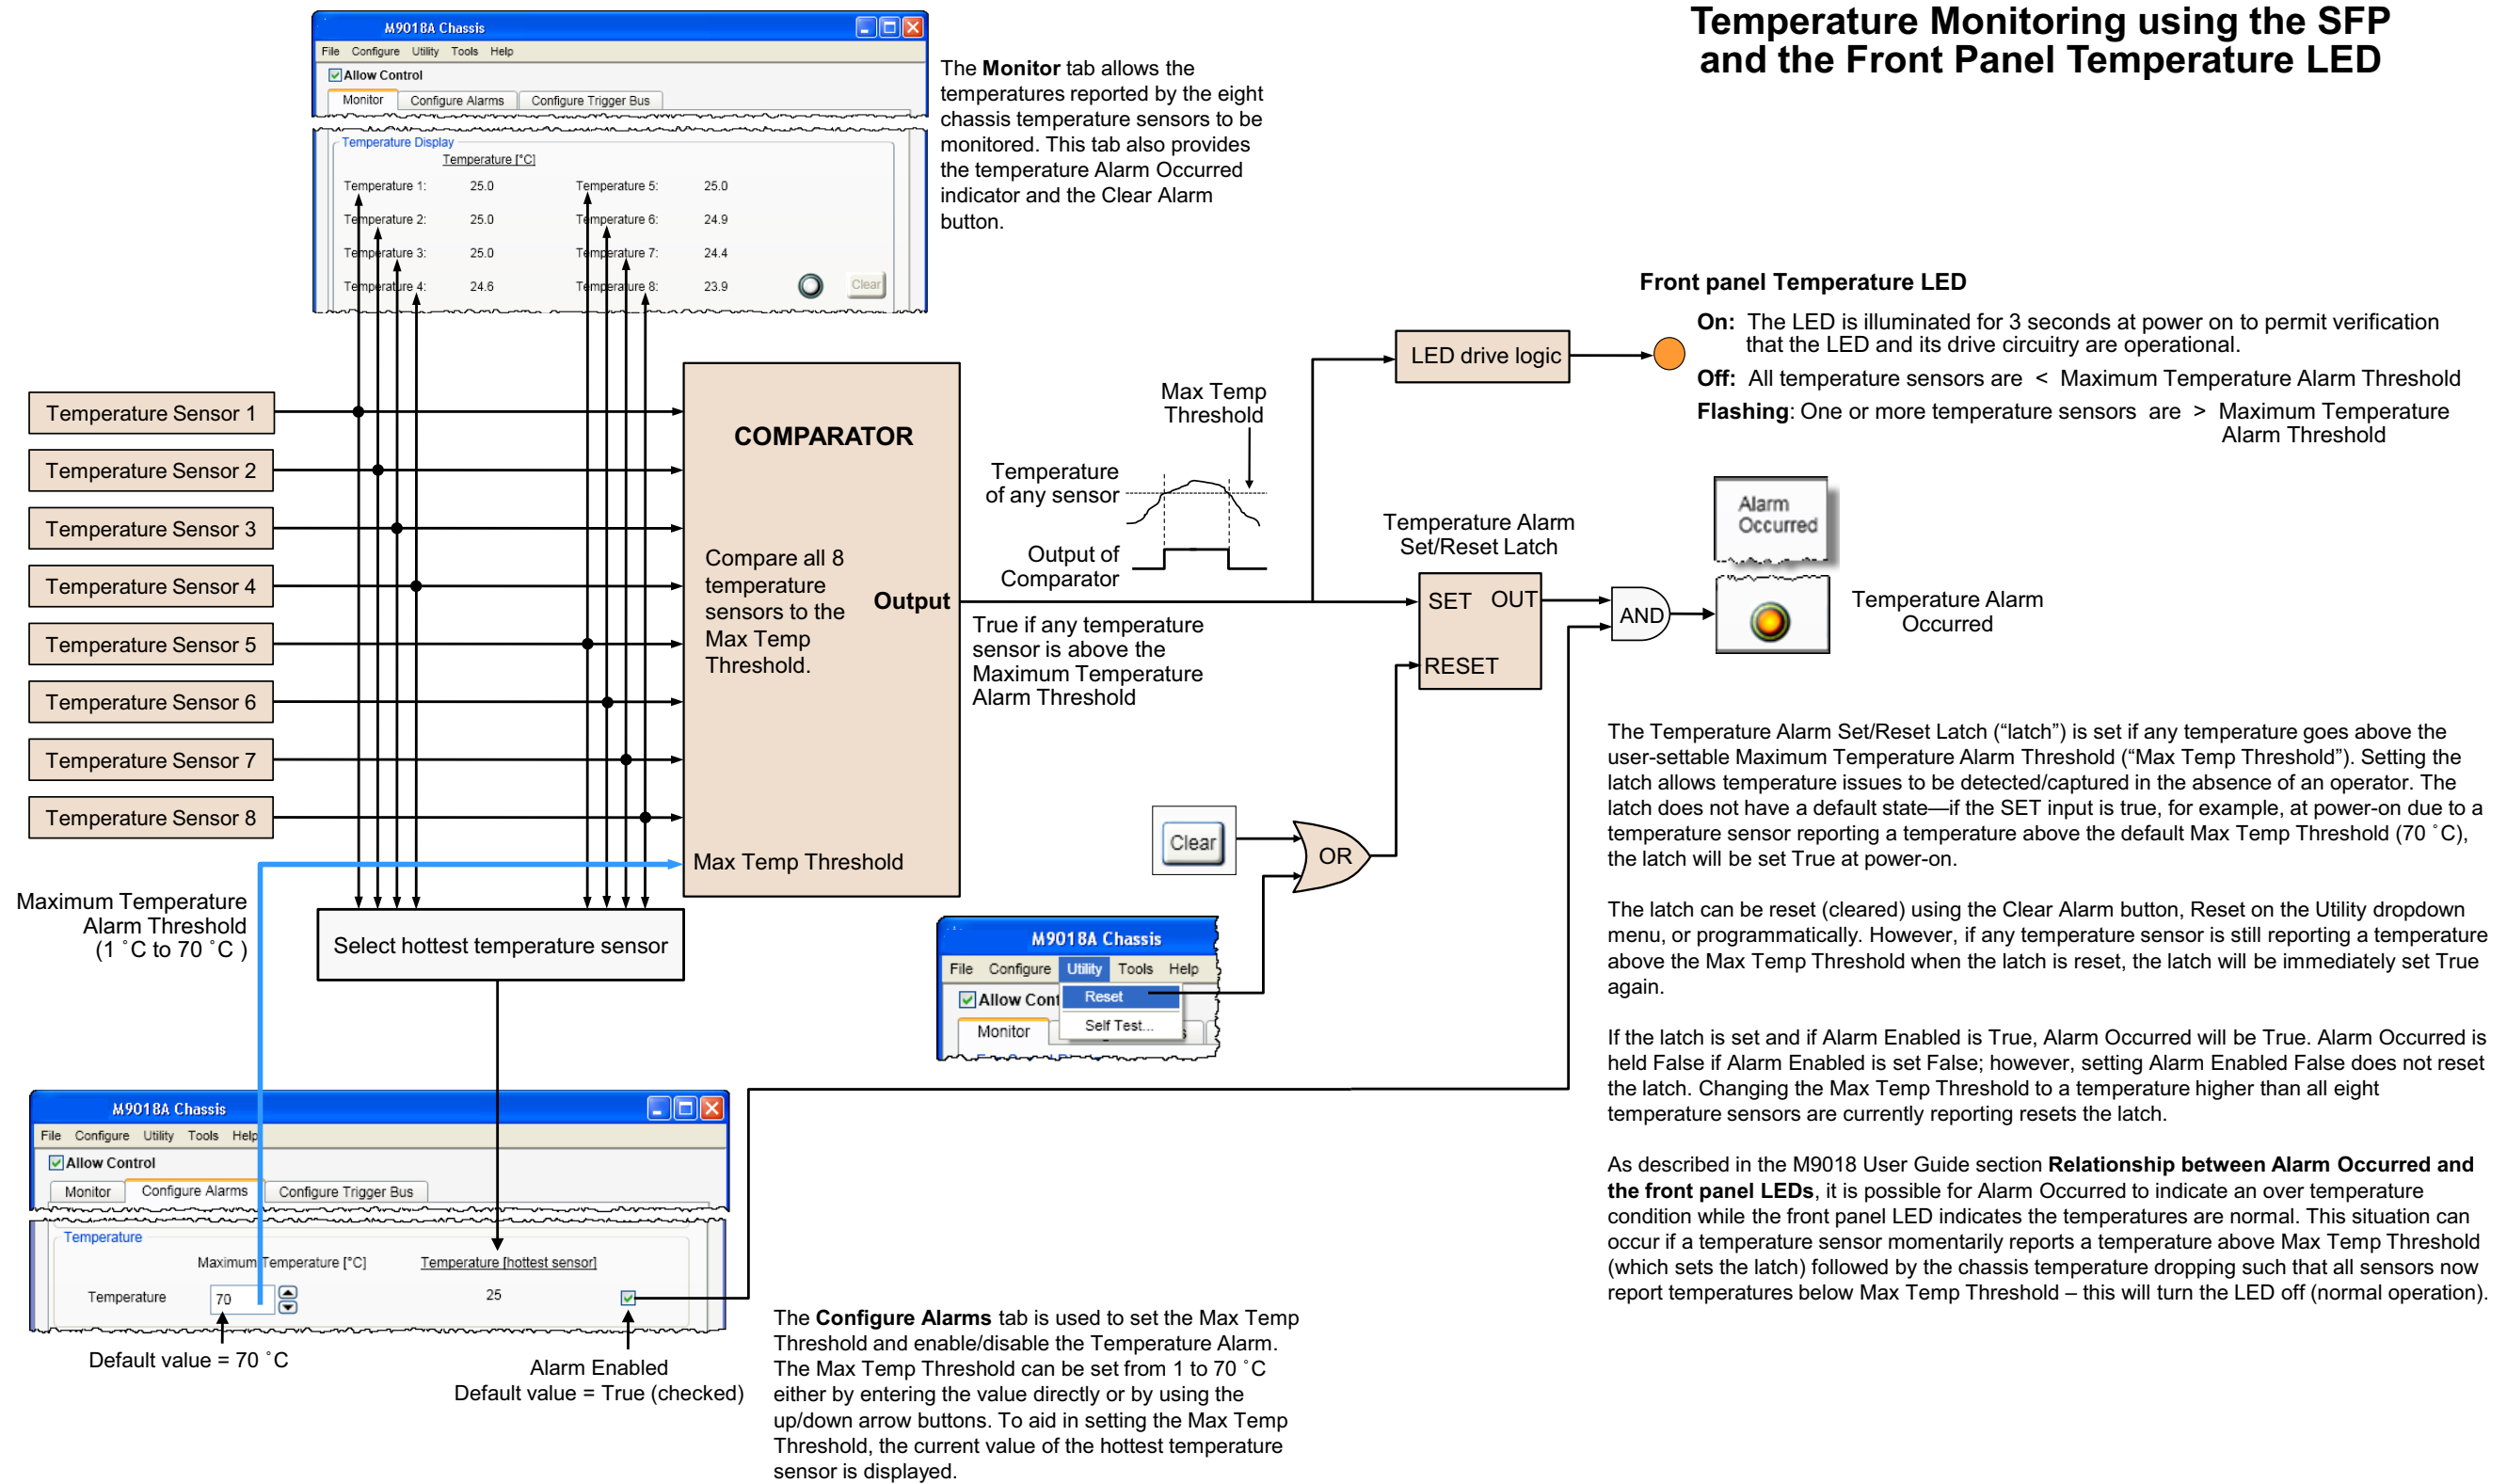

Figure 21 Temperature monitoring using the SFP and front panel LEDs
- Temperature Monitoring using the SFP and the Front Panel Temperature LED – Figure 21 on page 47